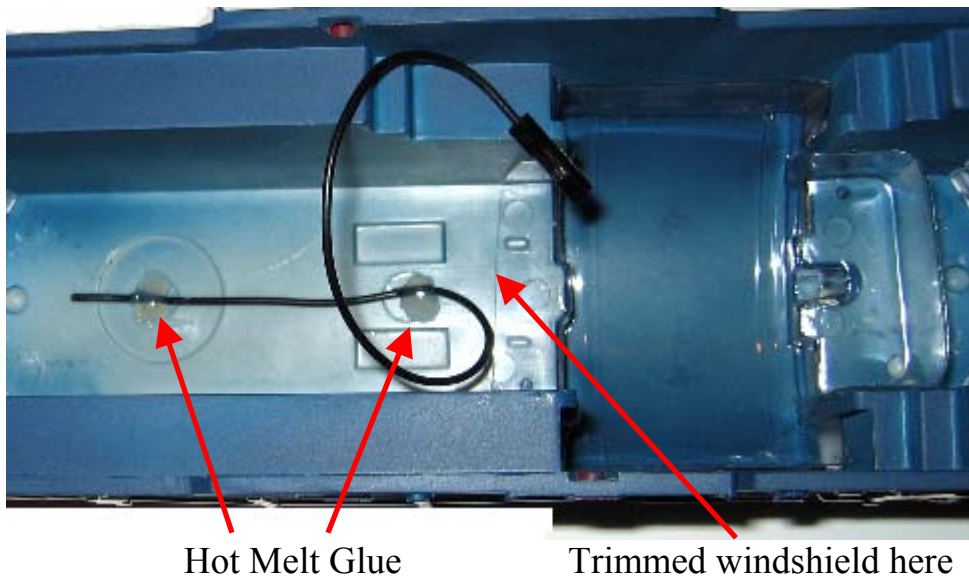

Figure 8
8. After checkout, un-plug the antenna wire from the Beep Commander. Cut the wire to about 7 inches. Install in the shell as shown in figure 8. The antenna is best attached to the shell with hot melt glue (shown) or with tape. Tape tends to dry out or get sticky, so use the hot melt glue technique if you can. It is best to remove the windshield to install the antenna to prevent damage to it.
9. **IMPORTANT:** Before re-installing the shell, you need to modify the windshield as shown in figure 8 to clear the newly installed electronics.